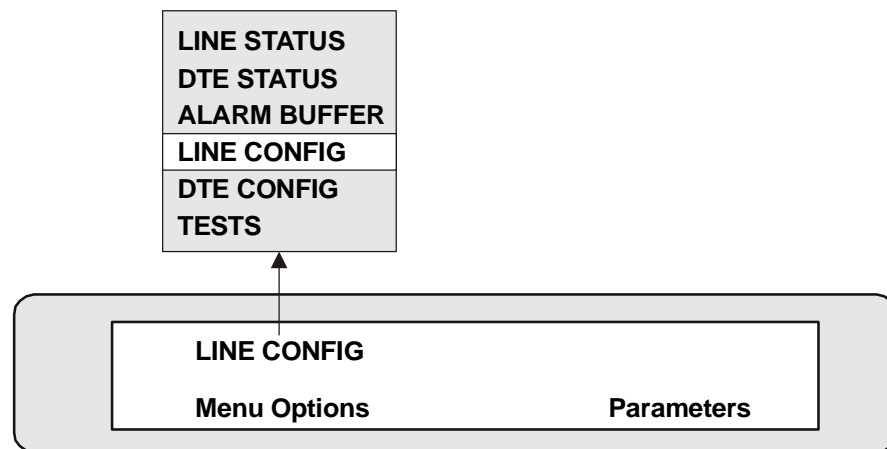

Figure 4-2. Selecting LINE CONFIG Menu
2. Press the SCROLL button until LINE CONFIG is displayed (see Figure 4-2).